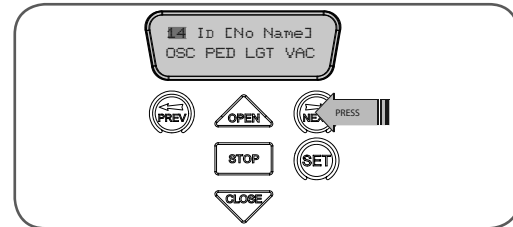

fig 29
1. Press NEXT or PREV to move the cursor over Store No. (**Fig. 29**)